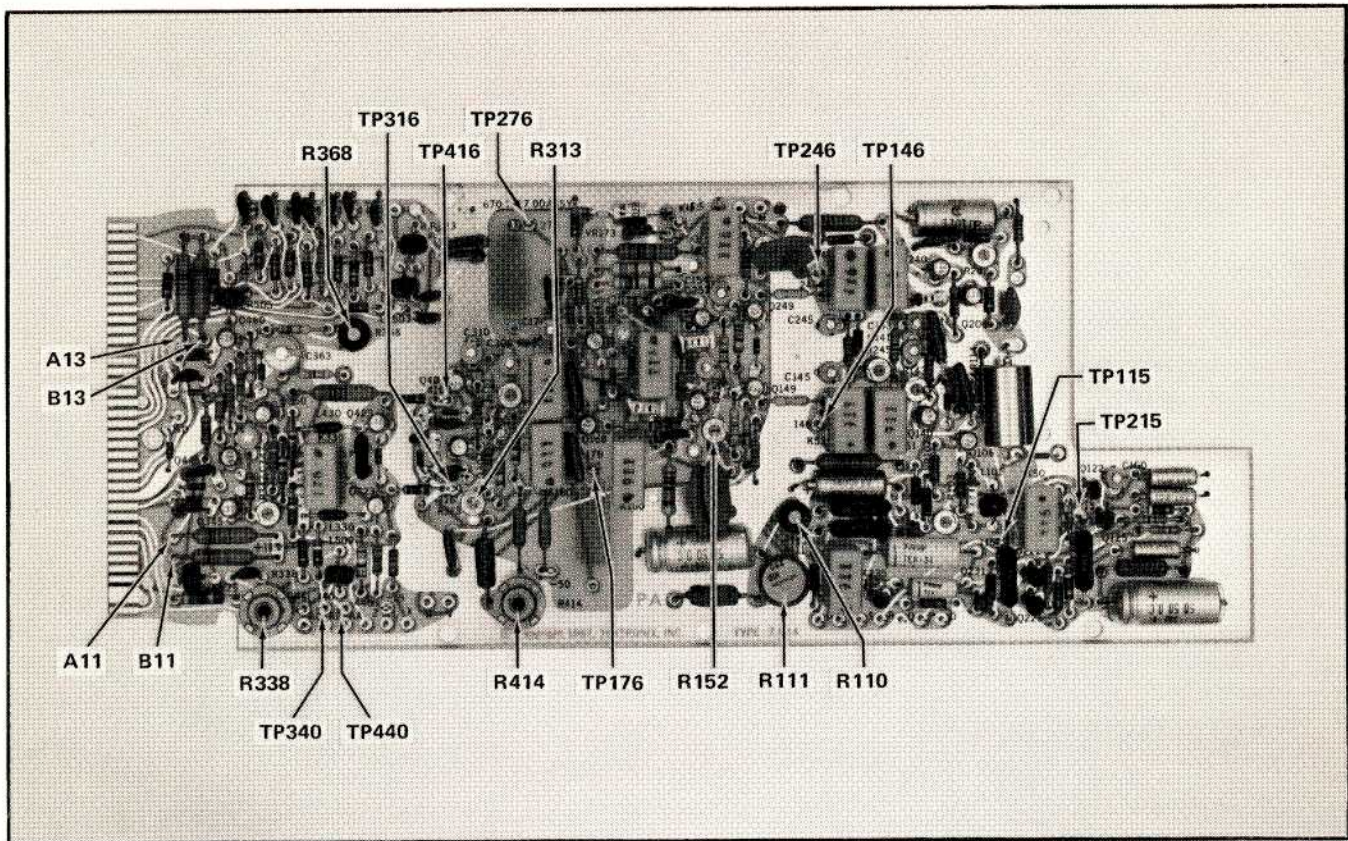

Fig. 5-1. Location of adjustment and test points for DC Balance checks.
Refer to Fig. 5-1 for location of test points.
- (1) Reset the voltmeter to the 12 volt scale.
- (2) Connect the voltmeter between A11 and B11 (the rearward end of R345 and R445. See Fig. 5-1).